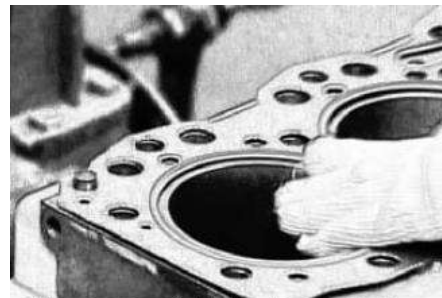

Fig 5-16 Cylinder Head Gasket
2.4 The cylinder head gaskets (see Fig 5-16) which have non-asbestos one and full metal one are used in GENERGY series engines according to requirements. When maintaining, please chose and use the same gasket as original engine, and select the torques of cylinder head belts